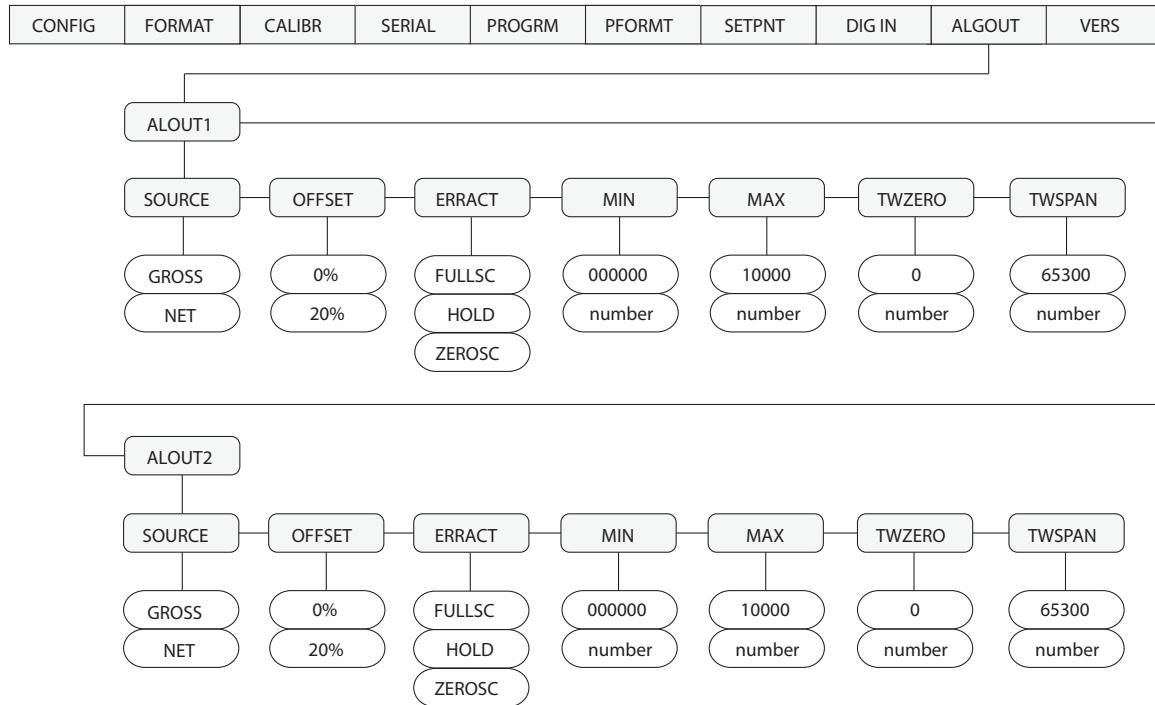

Figure 7-3. Analog Output Menu
1. Enter setup mode and go to the ALGOUT menu (see Figure 7-3). See Table 8-7 on page 51 for information on switch settings.